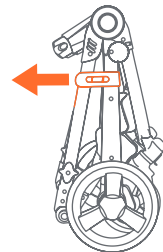
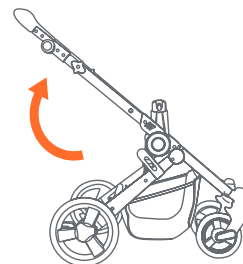

Fig. 16a
Fig. 16b
16) • Unlock the release lever (Fig. 16a) and unfold stroller frame by pulling upward on the stroller handle until the frame locks (Fig. 16b).